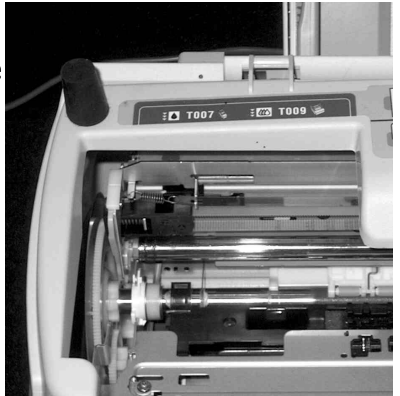

Fig. 9
11. Mark the position for the rubber bumpers used to prop open the lid. The bumpers should be far enough towards the back of the printer, to keep the lid from putting pressure on the Acrylic Support arm. See Fig. 9 and Fig. 10.